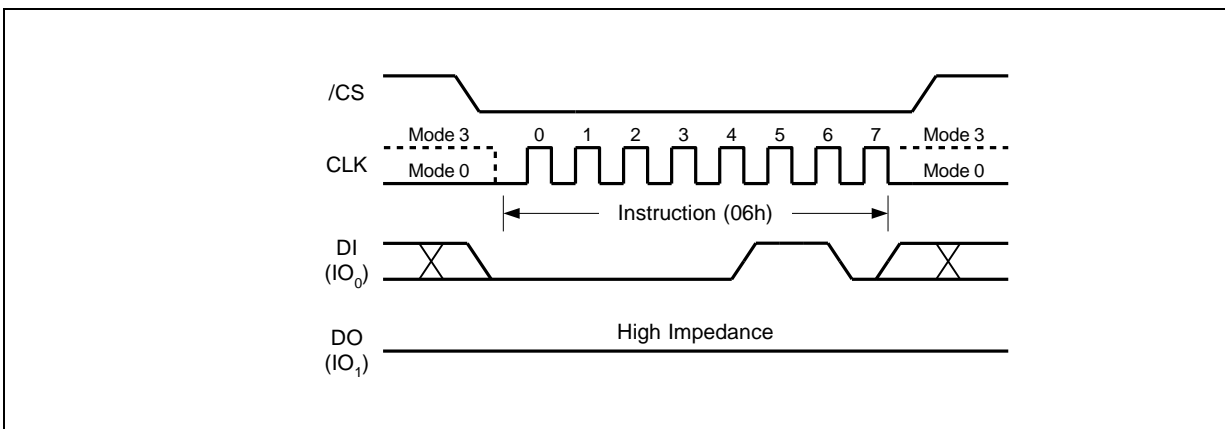

Figure 5. Write Enable Instruction
Instructions vary in length from a single byte to several bytes and may be followed by address bytes, data bytes, dummy bytes (don't care), and in some cases, a combination. Instructions are completed with the rising edge of edge /CS. Clock relative timing diagrams for each instruction are included in Figures 5 through 57. All read instructions can be completed after any clocked bit. However, all instructions that Write, Program or Erase must complete on a byte boundary (/CS driven high after a full 8-bits have been clocked) otherwise the instruction will be ignored. This feature further protects the device from inadvertent writes. Additionally, while the memory is being programmed or erased, or when the Status Register is being written, all instructions except for Read Status Register will be ignored until the program or erase cycle has completed.
The Write Enable instruction (Figure 5) sets the Write Enable Latch (WEL) bit in the Status Register to a 1. The WEL bit must be set prior to every Page Program, Quad Page Program, Sector Erase, Block Erase, Chip Erase, Write Status Register and Erase/Program Security Registers instruction. The Write Enable instruction is entered by driving /CS low, shifting the instruction code "06h" into the Data Input (DI) pin on the rising edge of CLK, and then driving /CS high.